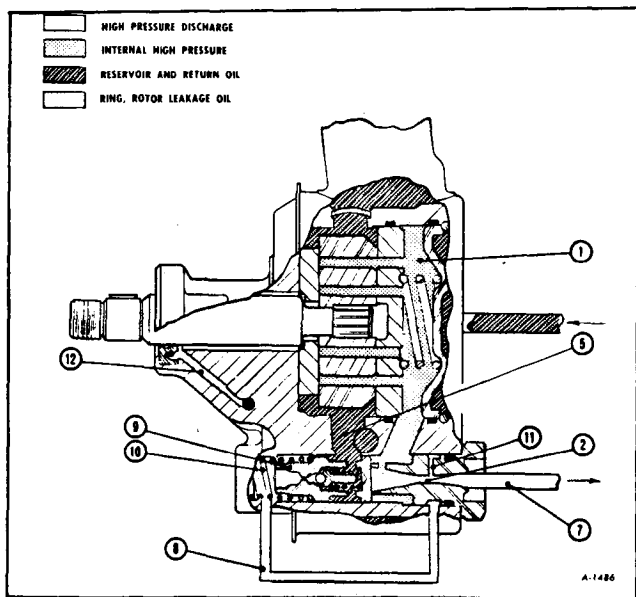

Figure 4-Slow Cornering
The thrust plate (figure 2) is located on the inner face of the housing by two dowel pins. This plate has four central blind cavities for undervane oil pressure. The two outer blind cavities direct discharge oil through the two cross-over holes in the pump ring (figure 3), through the pressure plate, and into cavity 1 (figure 4). The two outside indentations in the thrust plate are for intake of the oil from the suction part of the pump.
The pressure plate is fitted against the ring and located with the same two dowel pins. This plate has six through ports. The four central through ports connect from cavity 1 (figure 4) to supply undervane
oil pressure. The two outer ports pass oil under discharge pressure to cavity 1. The two indentations are for oil intake from the suction part of the pump, cavity 7 (figure 4) into the rotor.
spaces between the vanes. As the vane tips move outward, oil is sucked into the intervane spaces through four suction ports in the pressure and thrust plates. The pressure of the oil is raised, and the oil is discharged from the pump ring, as the vane tips move inward. High pressure oil discharges into cavity 1, (figure 4), through two open ports in the pressure plate, and through two blind ports in the thrust plate, which are connected to cavity 1 by the cross-over holes in the ring. A portion of this oil is circulated through the central port system in the pressure plate, forcing the vanes to follow the cam surface of the ring. The ring-rotor leakage oil (12) is used for bushing lubrication and then bled to the reservoir.
Slow Cornering (Figure 4)